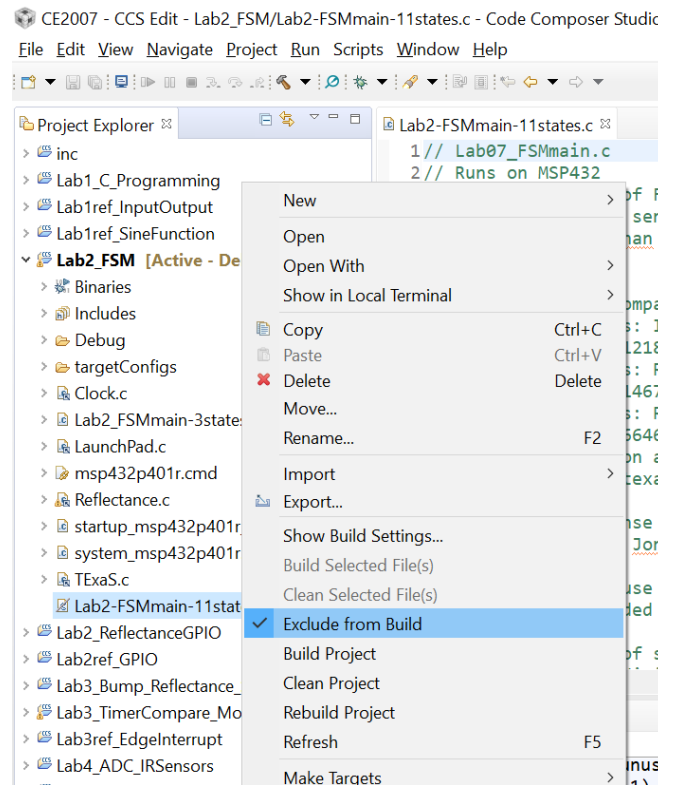

Figure 11: Include/Exclude Files from CCS project compilation
- The FSMmain-11states.c file is already included in the Lab2_FSM project but excluded from compilation. Open the project, exclude Lab2-FSMmain-3states.c and include Lab2-FSMmain-11states.c in the project compilation, rebuild the project to verify if the code function as per FSM diagram in Figure 10. Check Figure 11 below to see how to include and exclude specific files into a project. It is the same menu item that toggles the exclude/include option.